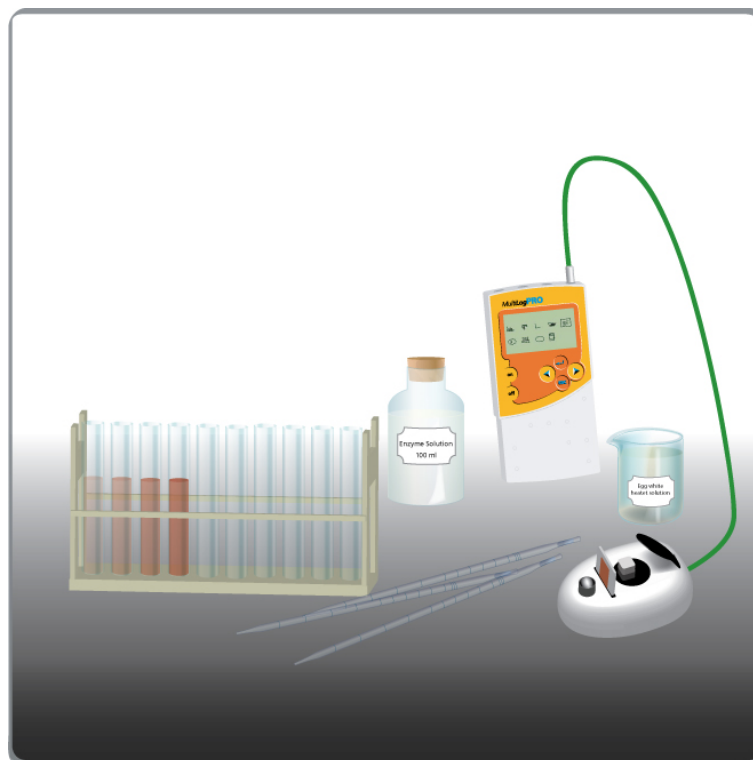

Figure 1
4. Assemble the equipment as illustrated in figure 1 below.